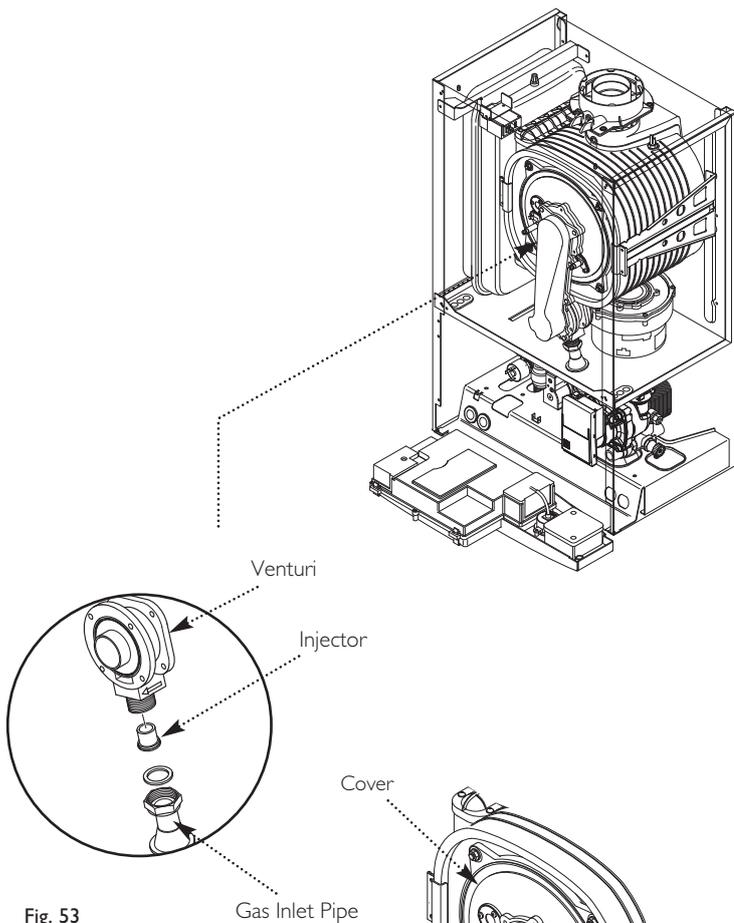

Fig. 53
13.3 Fan (Fig. 53)
1. Undo the nut on the gas inlet pipe to the venturi (Fig. 53) and pull the sensing pipe off the fan.